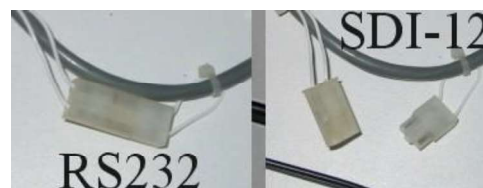

Figure 5-20. RS-232 / SDI-12 jumper switch
The standard SL power and serial communications cable (Figure 5-16 through Figure 5-19) has connectors for both RS-232 and SDI-12 (Figure 5-20).
- The power and serial communications cable uses a white, “jumper switch” connector (Figure 5-20) to switch between the RS-232 and SDI-12 serial communications modes. When connected, the SL uses the RS-232 serial bus. When open, the SL uses the SDI-12 serial bus.